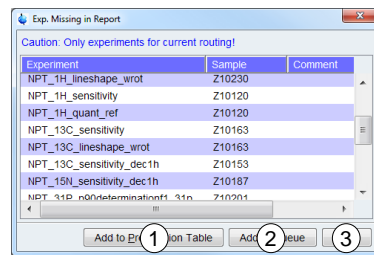

Figure 5-66: Acquisition tab – Exp. Missing in Report dialog
Click **Exp. Missing in Report** (6) to show a list of experiments (Figure 5-66) of the Inspection Lot not measured yet. Only experiments for current routing and samples currently available are listed.
Select experiments from the list (Figure 5-66) and click **Add to Preparation Table** (Figure 5-66 (1)) to move the experiments to the table for Experiment Preparation. Click **Add to Queue** (Figure 5-66 (2)) to add the experiments directly to the Experiment Queue. Click **Close** (Figure 5-66 (3)) to close the dialog.